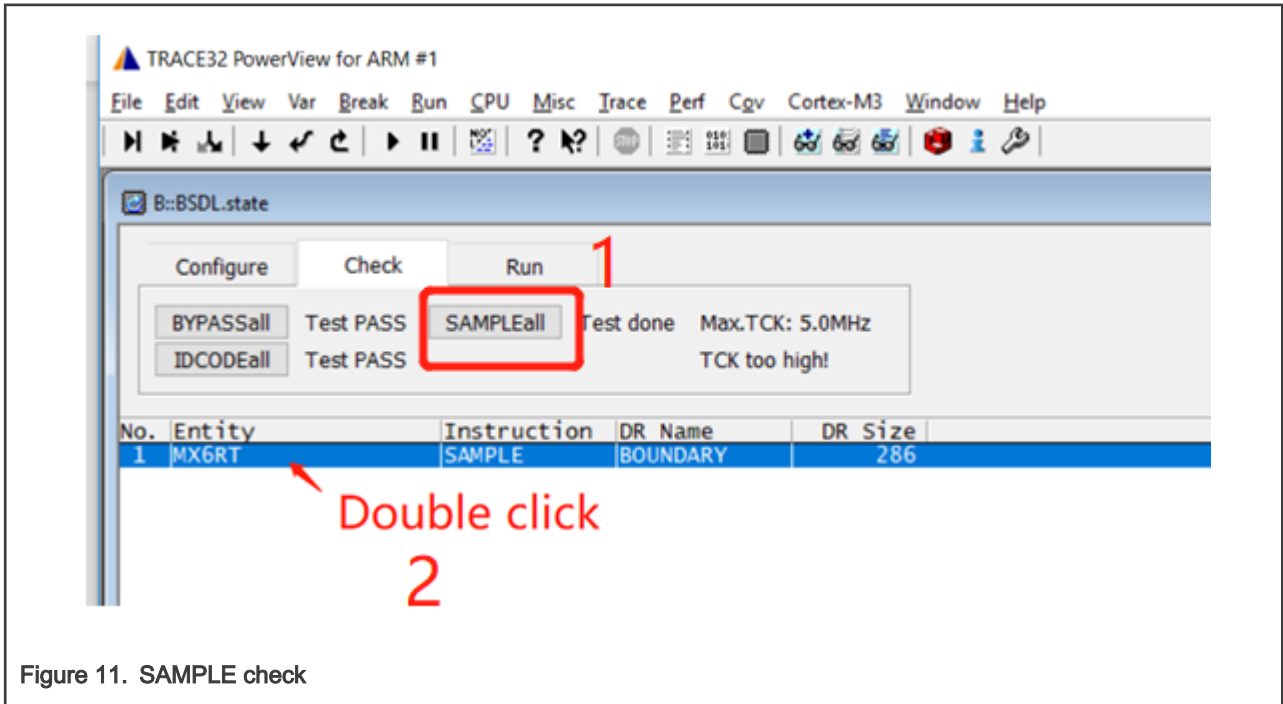

Figure 11. SAMPLE check
- Click the **SAMPLEall** button, and you will see **No result** becomes **Test done**. Double click the entity name, and the BSDL.SET window appears, as shown in Figure 11.